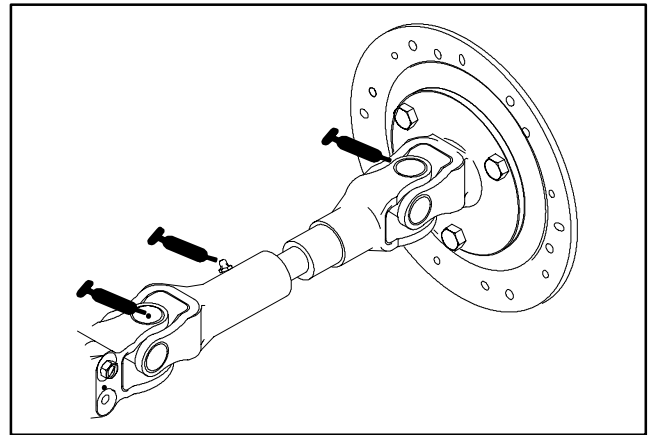
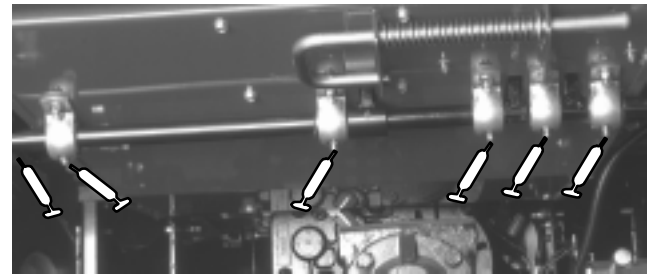
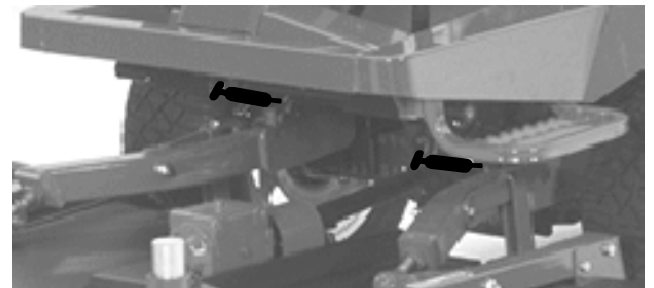

Figure 18
Figure 19
Figure 20
All Models—Intermediate Drive Shaft (3) (Fig. 18); Pedal Pivots (5), Traction pedal (In square tube under floor plate) (1) (Fig. 19) and Lift arm pivot (2) (Fig. 20).